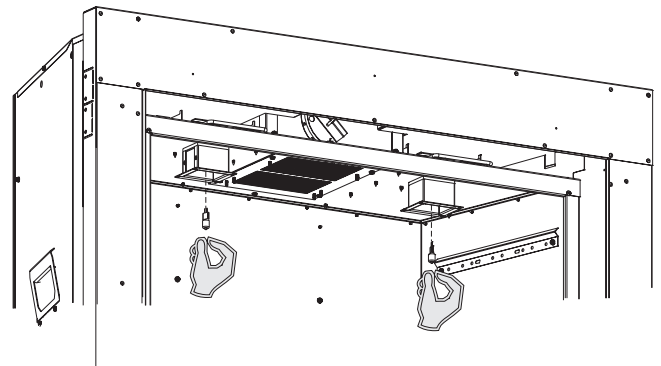

Figure 87
2. Remove old light bulb and replace with a new one. **(See Figure 87)**